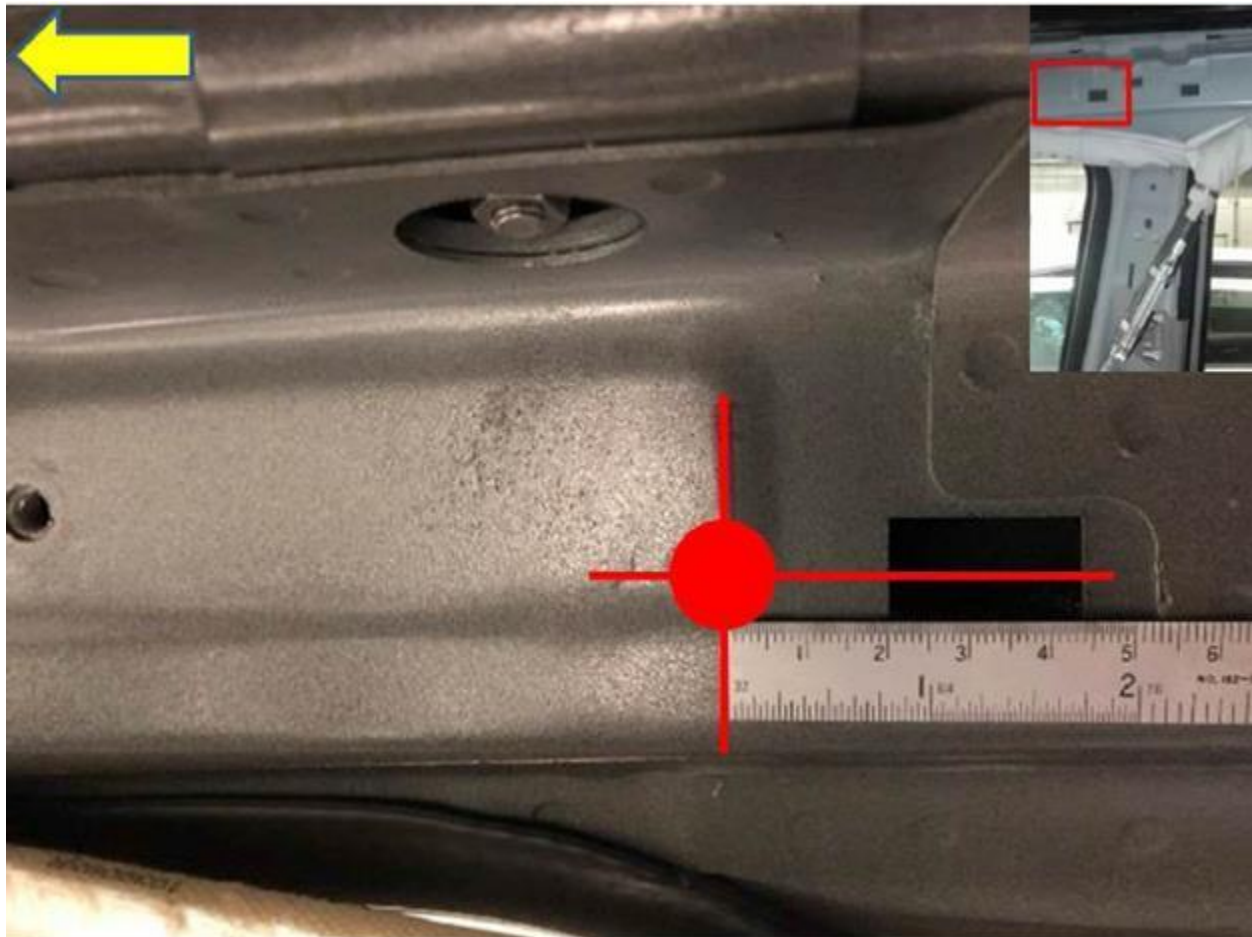

Figure 3: Reference point, front area.
- 2.1 Using a plastic 16 oz. hammer strike twice in the upper zone of the B-Pillar according to the reference points described, see Figures 3 and 4. The end result is to create a gap approximately 3 mm between the internal bracket and cover sheet metal. See Figure 5.